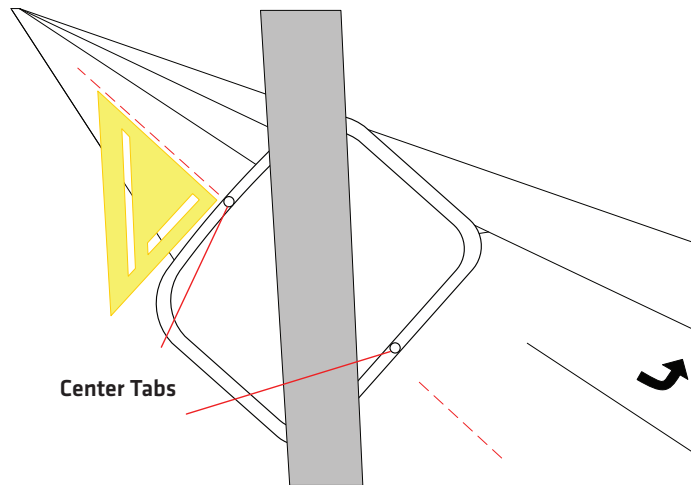

Figure 1.4 - Aligning the Sensor with the Roadway
- 3 Align the top and bottom center-tabs of the sensor with the center of the lanes of interest. It may be beneficial to use a 90 degree edge from a rafter's square or other framing device to correctly align the sensor. Place the parallel edge of the framing device on the top or bottom of the sensor and then line the perpendicular edge with the roadway (see Figure 1.4).